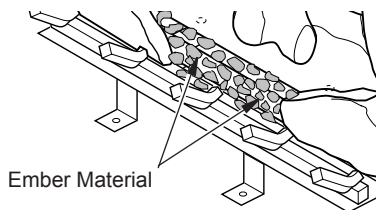

Figure 46 - Placing Ember Material on Burner
8. Pull ember material apart into pieces no larger than a dime. Place these pieces loosely and sparingly directly onto the exposed section of the front burner and along the space between the burner and grate prongs (see Figure 46). This will create the glowing ember appearance as the flame touches the ember material. Do not block air slots by using too much ember material in one area. Place small pieces of ember material to cover pilot ports. It is not necessary to use all of the ember material provided.